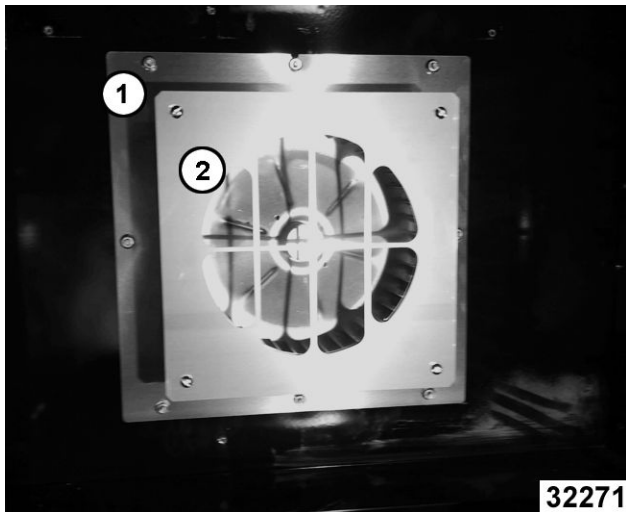

Fig. 40
7. Remove blower baffle screws (2, Fig. 40) if applicable.
8. Remove motor mounting plate nuts (1, Fig. 40).